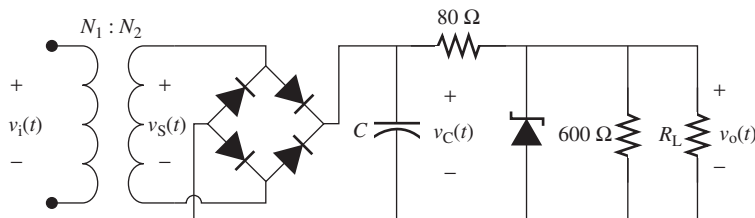

FIGURE P8.32 Circuit for Problem 8.32.
- 8.32** (H) A transformer has 200 turns of coil at its input stage and 50 turns of coil at its output stage. A voltage regulator is connected to the transformer (see Figure P8.32) to drive the load, $R_L = 300$ Ω. Given that the transformer is connected to a source, $V_S = 120 \sin(100t + 60^\circ)$ V, and the Zener voltage is 5 V, determine the capacitance required in the voltage regulator to meet the design requirements.